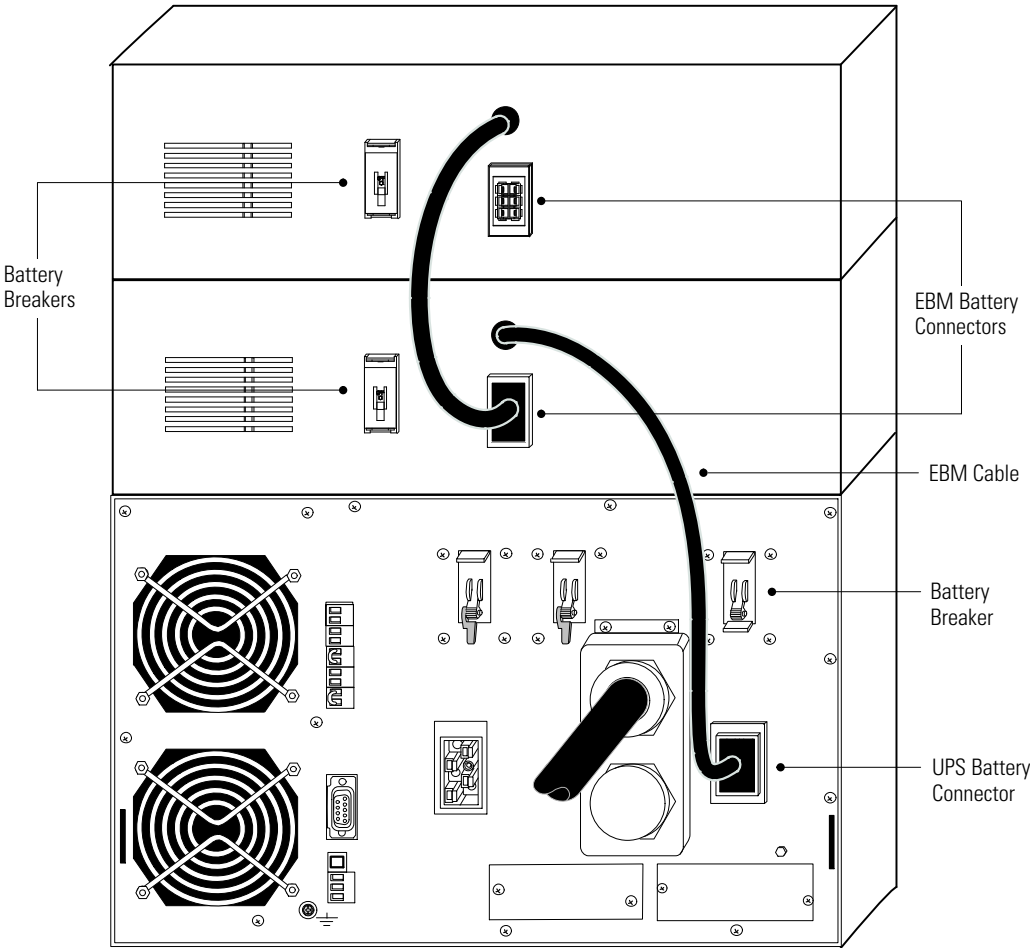

Figure 26. Typical EBM Installation
1. Verify that all battery circuit breakers on all UPSs are in the OFF (O) position (see Figure 26).
2. Plug the EBM cable(s) into the battery connector(s) as shown in Figure 26. Up to four EBMs may be connected to the UPS.